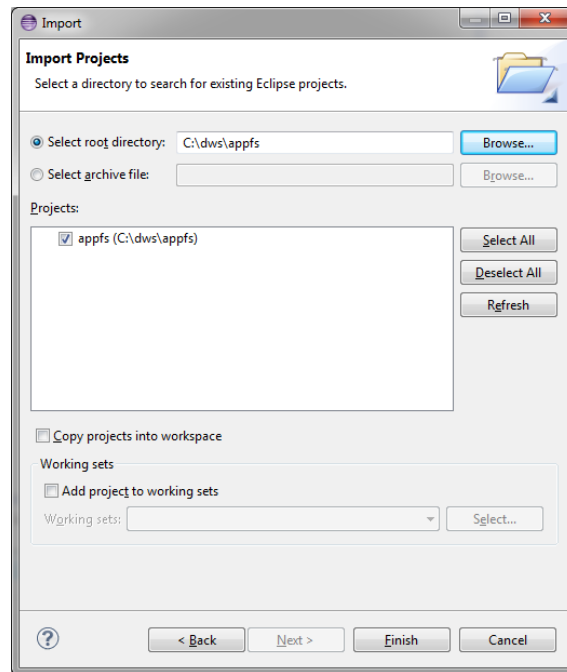

Figure 4: Eclipse Project import dialog 2
4. If the project is found correctly, it is listed and checked in the Projects pane (see Figure 4). With clicking on "Finish" the appfs Eclipse project will be imported and displayed in your Eclipse development environment.